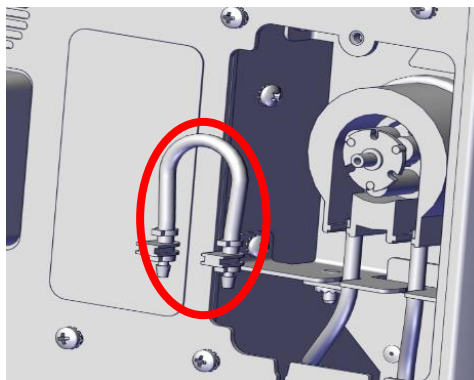

Figure 5
4. Remove the old Wash Pump Tube Assembly as shown in Figure 5.